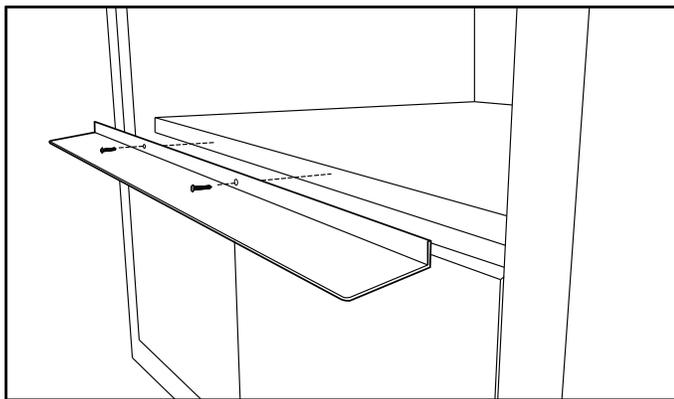

Figure 12A: Deflector Vent Installation for 30" Drawer Microwave (during installation)
2. Position deflector vent and mark holes as shown in Figures 12A and 12B. Pre-drill using a 1/16" bit.